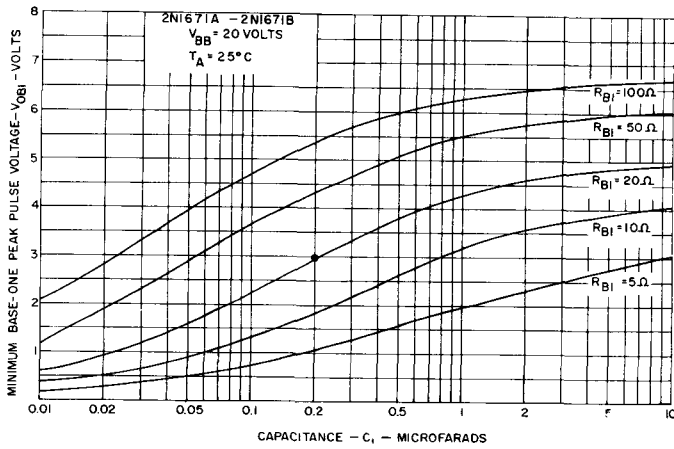

FIG. 12
(5) The base-one peak voltage is measured in the circuit below. This specification on the 2N1671A is used to ensure a minimum pulse amplitude for applications in SCR firing circuits and other types of pulse circuits. The variation of pulse amplitude with temperature and circuit parameters is shown in figures 12 to 15.